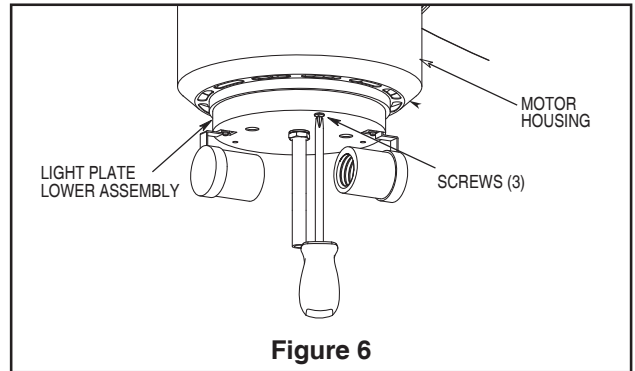

Figure 6
6. Reinstall the hanger ball on the downrod as follows. Route the three 80-inch wires through the hanger ball. Position the pin through the two holes in the downrod and align the hanger ball so the pin is captured in the groove in the top of the hanger ball. Pull the hanger ball up tight against the pin. Securely tighten the set screw in the hanger ball. A loose set screw could create fan wobble (Figure 6).
- 6. Remove one of the three screws in the motor housing. Slightly loosen the remaining two screws. Assemble the light plate lower to the motor housing using the two key slots. Replace the third screw and securely tighten all three screws (Figure 6).